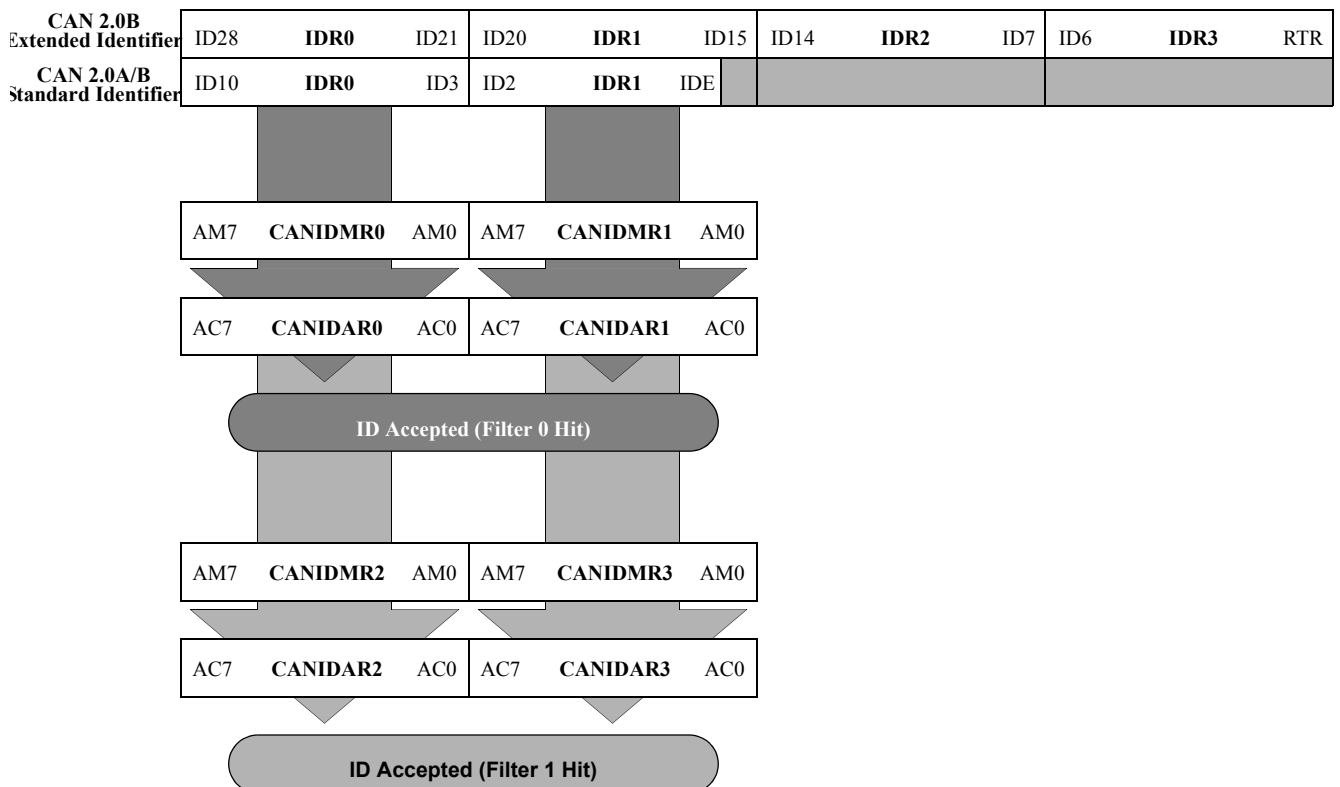

Figure 92. 16-bit maskable identifier acceptance filters
- The 11 bits of the standard identifier, the RTR and IDE bits of CAN 2.0A/B messages. Figure 92 shows how the first 32-bit filter bank (CANIDAR0–CANIDAR3, CANIDMR0–CANIDMR3) produces filter 0 and 1 hits. Similarly, the second filter bank (CANIDAR4–CANIDAR7, CANIDMR4–CANIDMR7) produces filter 2 and 3 hits.